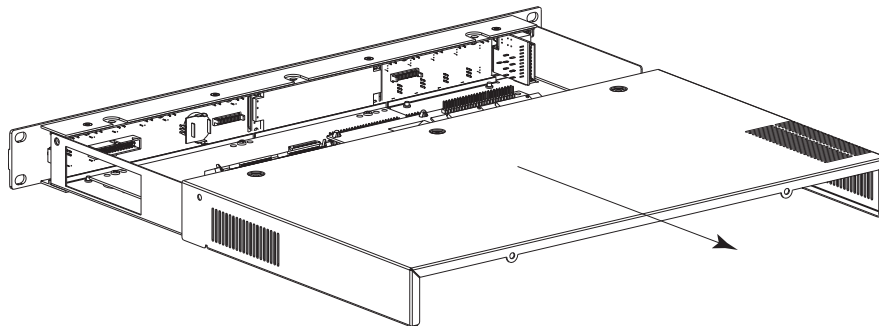

Figure 3-2 Removing the top cover
2. Refer to Figure 3-2. Slide the top cover back from the Front Panel Assembly to release the top cover from the bottom enclosure, and place the top cover safely aside to avoid damage.